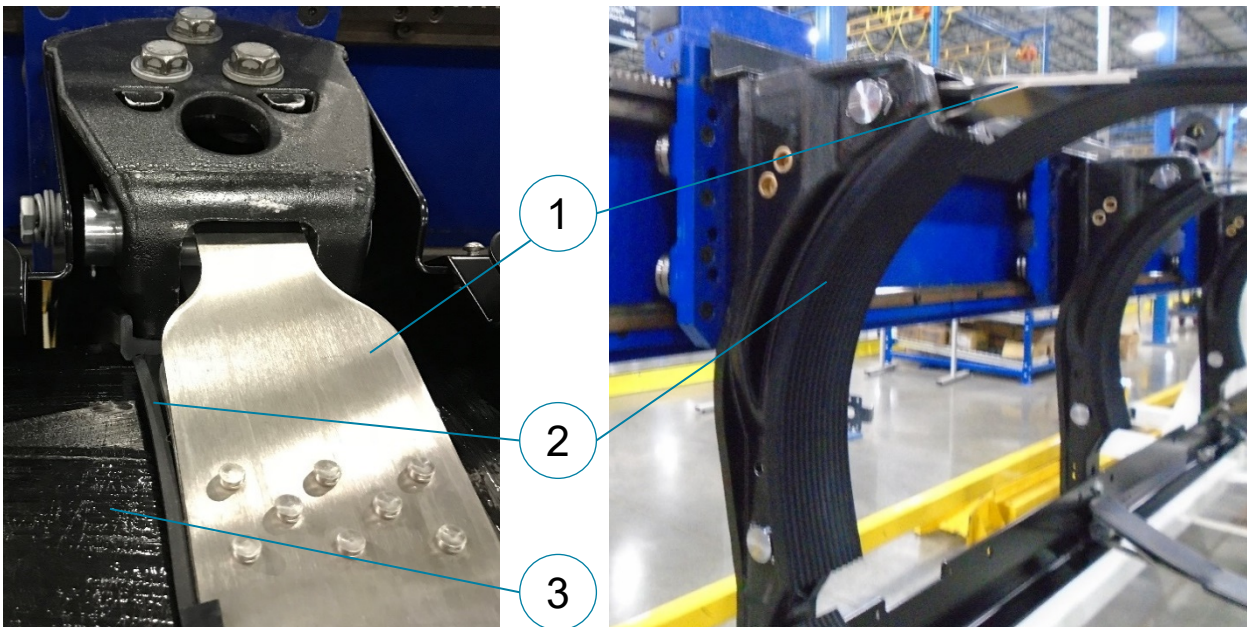

Figure 46. New rubber isolators (2) between the brackets (1) and cylinder (3).
4. Maximum isolator crack / tear length should not exceed 1/2-in (12.7 mm) past the outside edge of bracket. *Figure 46*